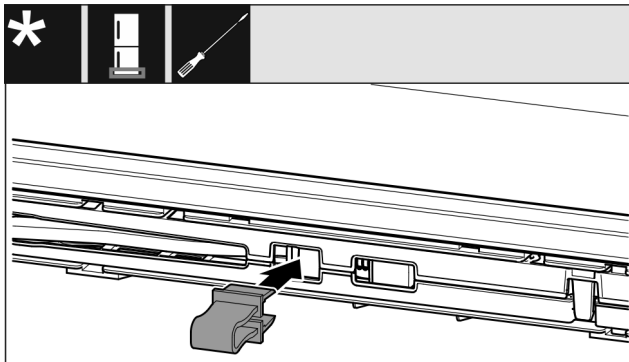

Fig. 14
- ▶ Engage the locking device in the opening Fig. 14 ().